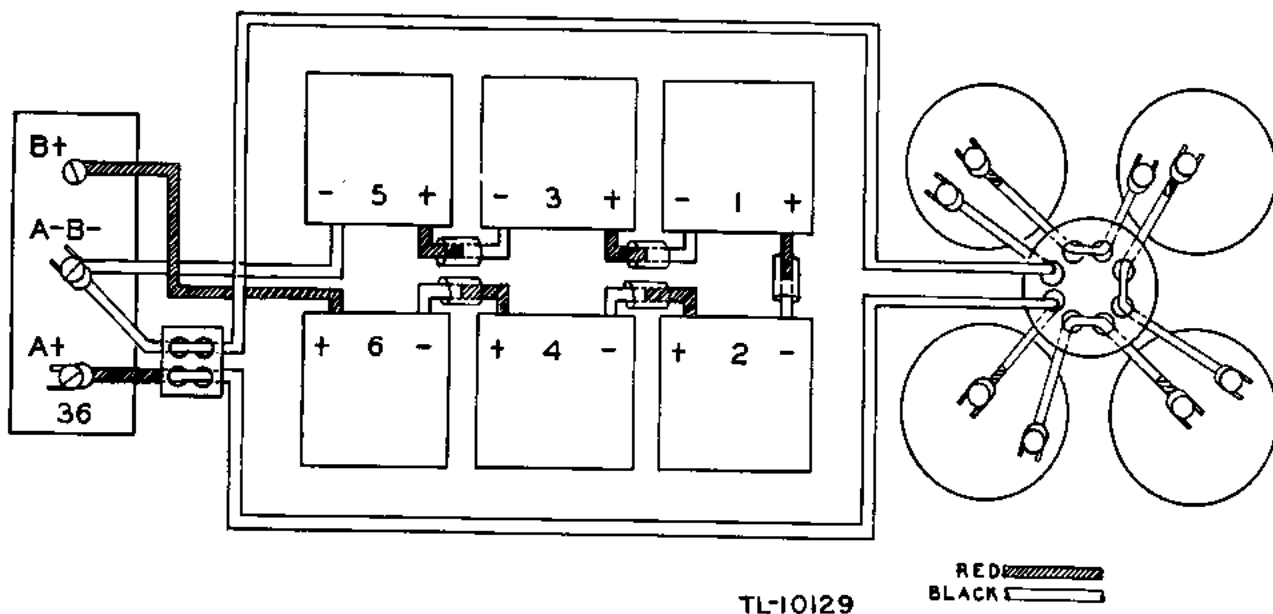

Figure 12. Battery connection details, metal cabinet.
(2) For all other models, connect the six Batteries BA-2 in series before installation in the cabinet, and cover the splices with friction tape or spaghetti in order to avoid short circuits. (See fig. 12.)